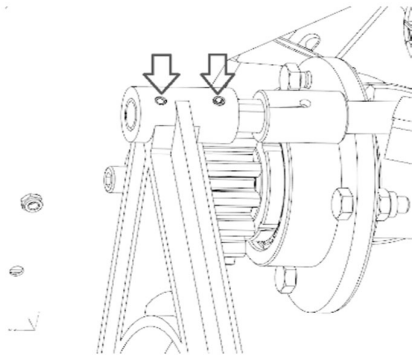

Figure 35: Wrapped Pins
- Wrapped pins of knotting groups motion disk must be removed (Figure 35).